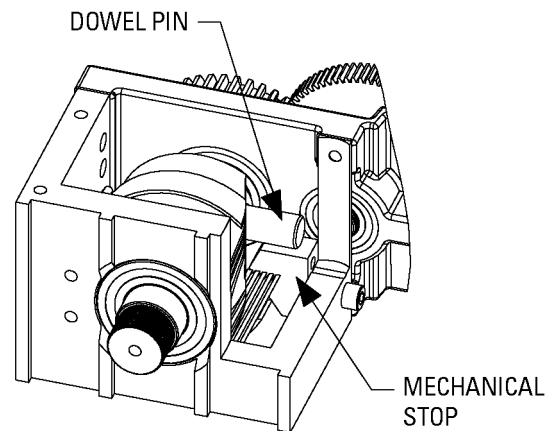

Fig. 17
2. Set the mode switch to Hold Open. The operator shaft rotates to its mechanical stop (fully open) and stays there. Verify that the dowel pin on the operator shaft is against the stop (see Fig. 17).